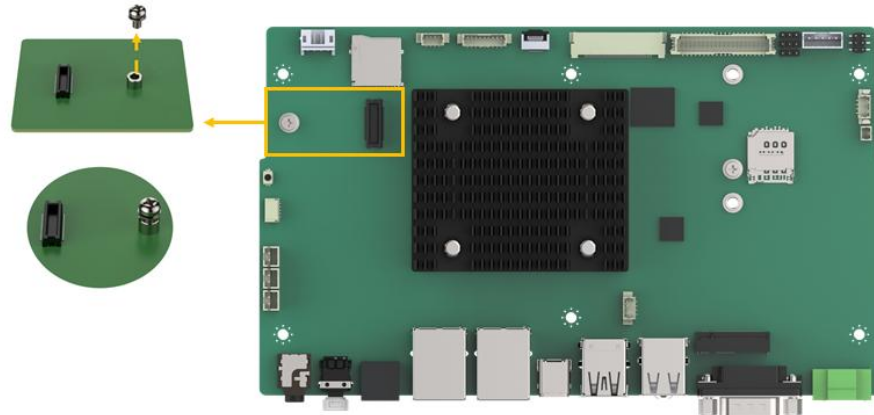

Figure 3-9: Remove the Retention Screw
- Step 5:** Locate the board-to-board Wi-Fi module slot (see **Section 5.1**). Remove the preinstalled retention screw on the standoff of the board-to-board slot (**Figure 3-9**).